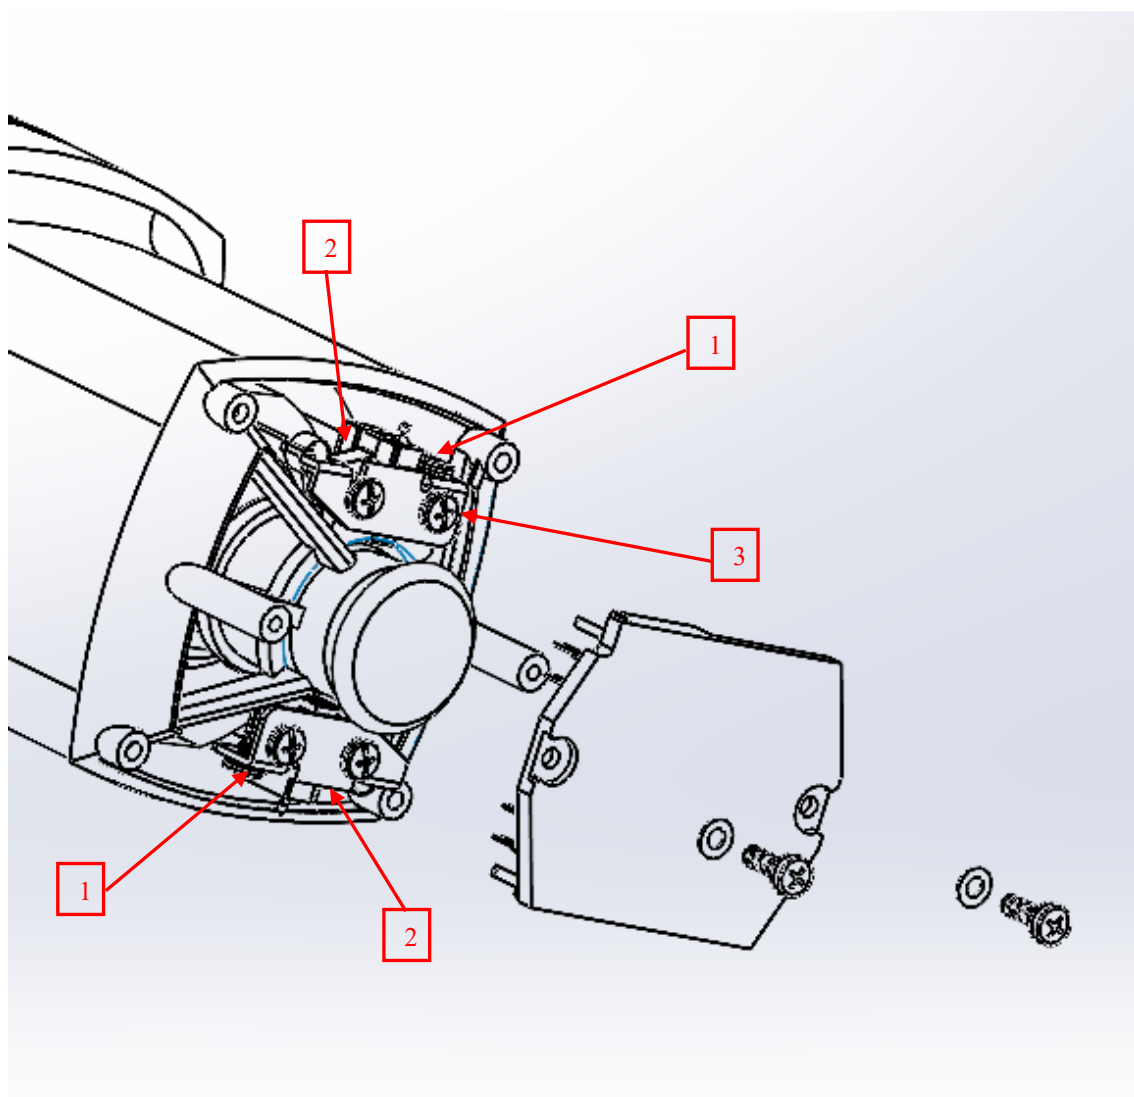

Figure 2.10
- 2.4.2 Loosen the two screws as shown in figure 2.10 – position 1, unhook the springs in position 2 – figure 2.10 – with the help of a screwdriver and unscrew the four screws in position 3 – figure 2.10;